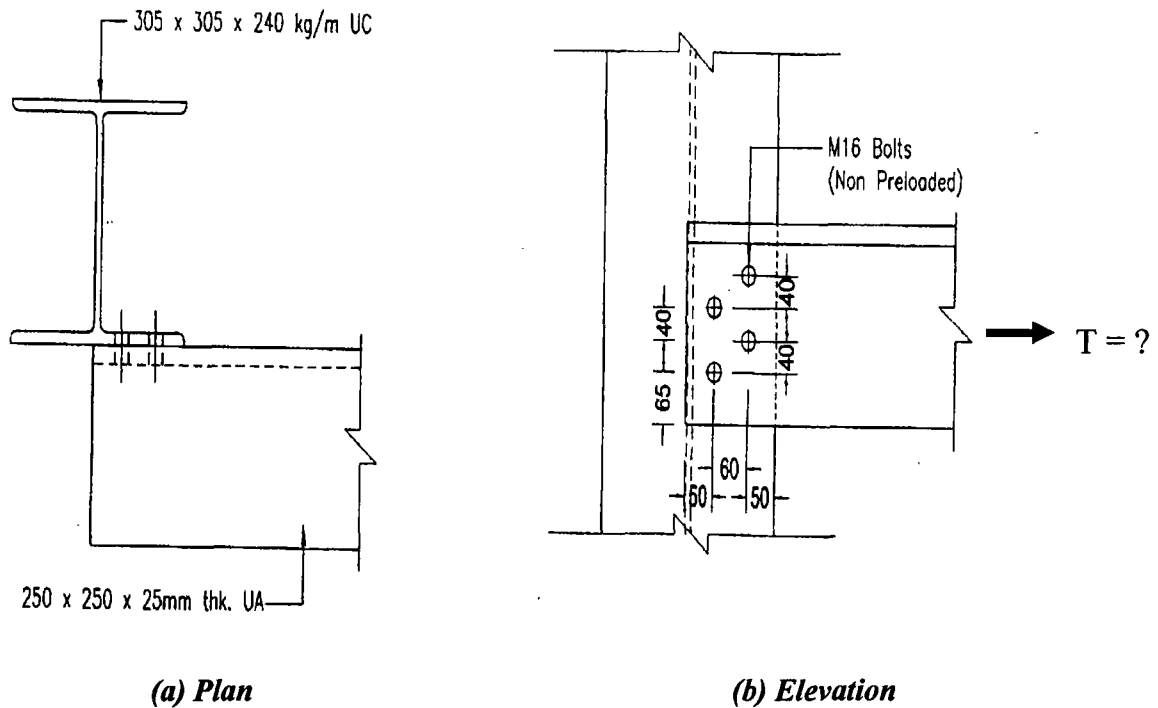

Figure 1 : Simple Tie
- (b) Determine the maximum tension force that can be resisted by the simple structural tie as shown in Figure 1. Assume all sections as grade S275 steel. The shear area (A_s) and tensile area (A_t) for M16 grade 8.8 bolts is 157 mm^2 .